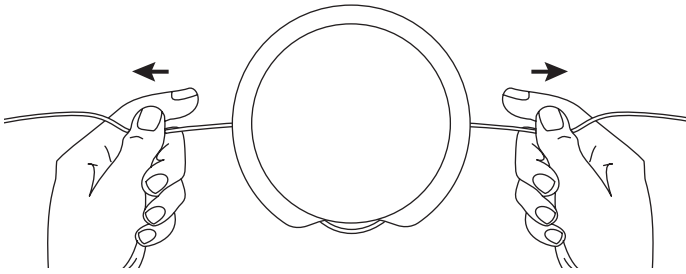

Fig. 22
3. Pull the ends through making sure that the ends are of equal length and the middle of the line is centered between the insertion holes (Fig. 22).